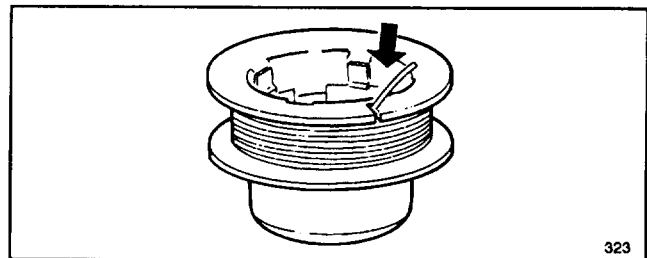

Figure 20
- C. Keep line tight on spool by securing in groove (Fig. 20).